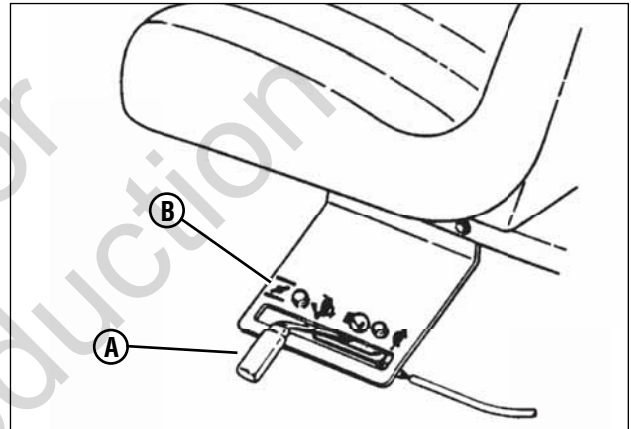

Figure 6: Engine speed control
4. Move the engine speed control (**A, Figure 6**) to the choke position (**B**) to start a cold engine.
- Move the engine speed control (A, Figure 6) to the choke position (B) to start a cold engine.